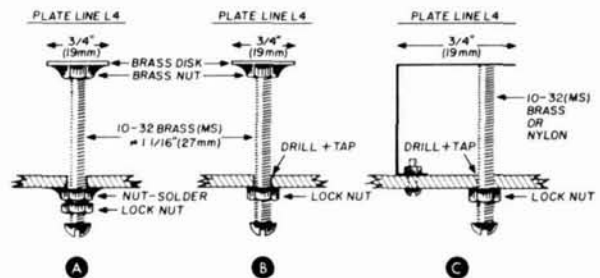

fig. 7. Three methods for building the plate tuning capacitor, C4.
- C4 plate tuning capacitor (see fig. 7)
- C2 10 pF piston trimmer capacitor or built as C4 (fig. 7)
pF and must not break down at full applied B+. A low loss, high quality glass or ceramic piston trimmer (rated accordingly) would do nicely, or this capacitor may be constructed using 3/4-inch (19mm) wide, sheet brass strap bent up near the plate line for about 3/4 inch (19mm) and insulated from it with a layer or two of sheet mica (see **fig. 7**). The spacing between this tab and the plate line can be varied by any convenient mechanical means to tune the line. An alternate approach is to drill and tap the transverter top-plate to pass a no. 8 or no. 10 (M4-M5) brass machine screw with captive lock nut. Cut the screw so it is just short of touching the plate line (by at least 1/16 inch or 1.5mm) and solder a 3/4 inch (19mm) diameter brass disc to its end. Insulate the disc from the plate line with mica sheet.